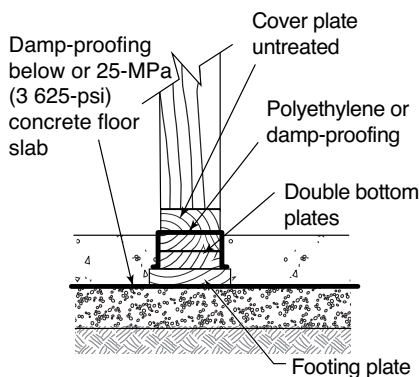

FIGURE 67
- interior columns and partitions, if they are above a suspended floor or separated from a concrete slab by damp-proofing; a load-bearing interior partition may require a triple bottom plate (see Figure 67).